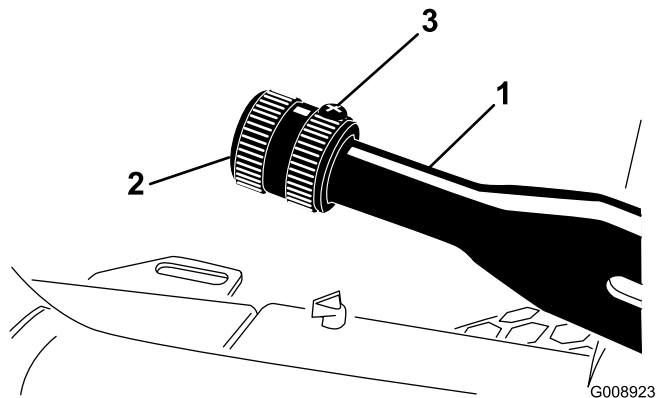

Figure 68
1. Loosen the set screw that secures the knob to the parking brake lever (Figure 68).